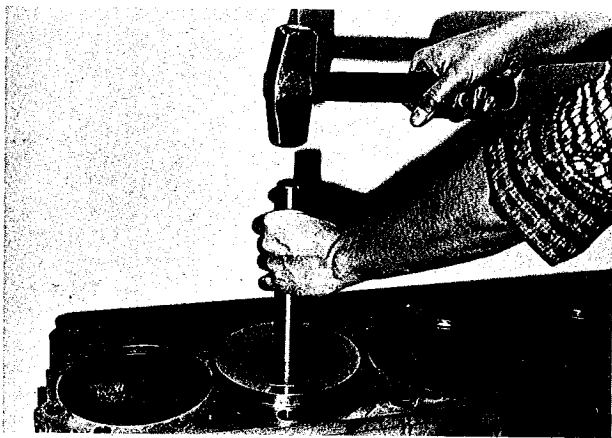
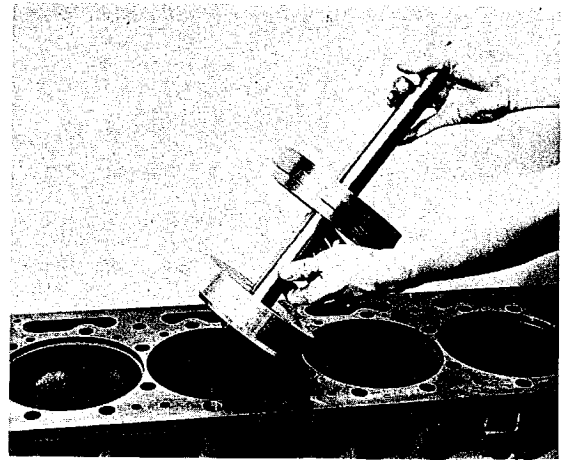

Fig. 20 Driving the bushing into the bore
Fig. 21
2. Coat the outside diameter of the bushing lightly with PT-7260 LOCTITE COMPOUND and drive it into the bore with driver plate using a soft hammer until it bottoms. A solid sound can be heard when bushing bottoms. (See Fig. 20). Also see Fig. 21 which shows driver assembled.